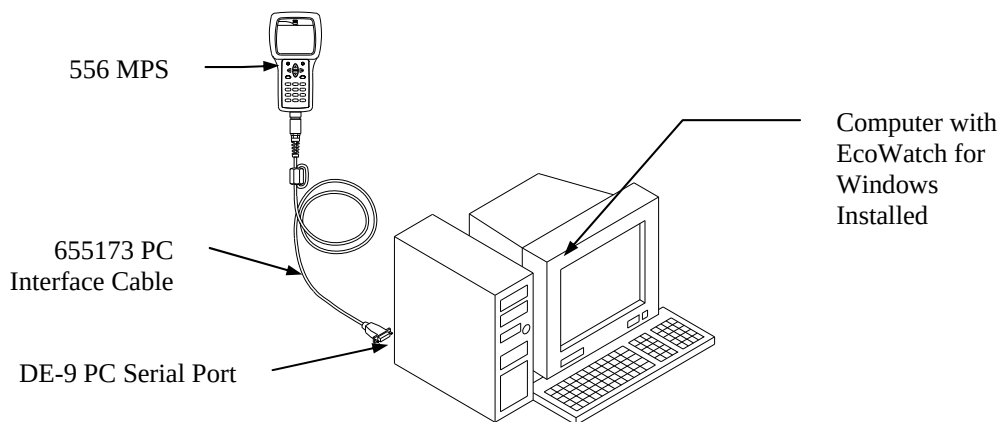

Figure 8.2 Computer/Instrument Interface
3. Use the arrow keys to highlight the **Upload to PC** selection. See Figure 8.2 File Screen.
3. Use the arrow keys to highlight the Upload to PC selection. See Figure 8.2 File Screen.